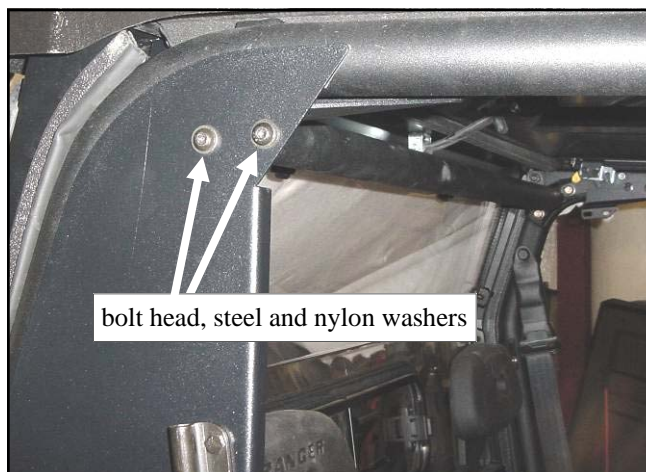

Fig. 6.9 (view from front passenger's side)
6.9 Per fig. 6.9, install two bolts to the top of the hinge plate assembly using the following: two 5/16-18 x 1" long button head bolts, four steel washers, two nylon washers, and two 5/16-18 locknuts. Tip: the black plastic washers can be difficult to distinguish from the black steel washers. Use a magnet or look for witness marks left on the plastic washers from the mold ejector pins. Tighten these two bolts.